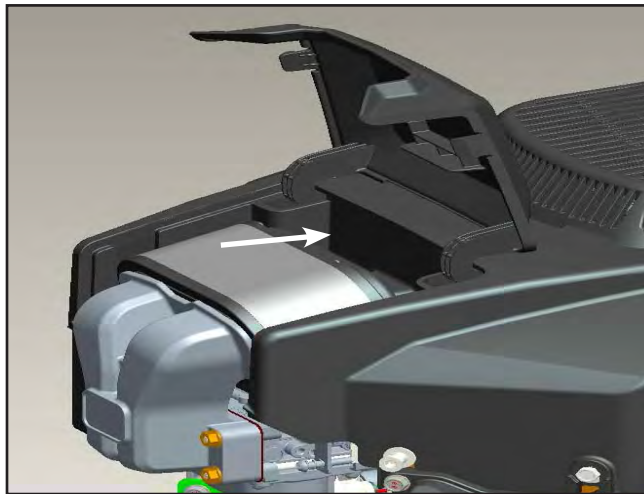

Figure 5
2. Rotate filter out from the rear (Figure 5).